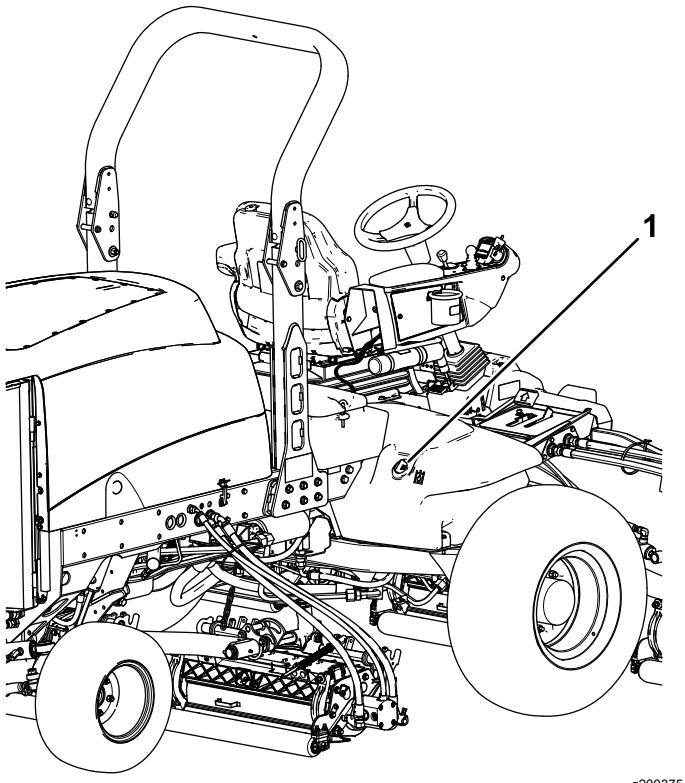

Figure 119
2. Clean the area around the filler neck and cap of the hydraulic tank (Figure 119).